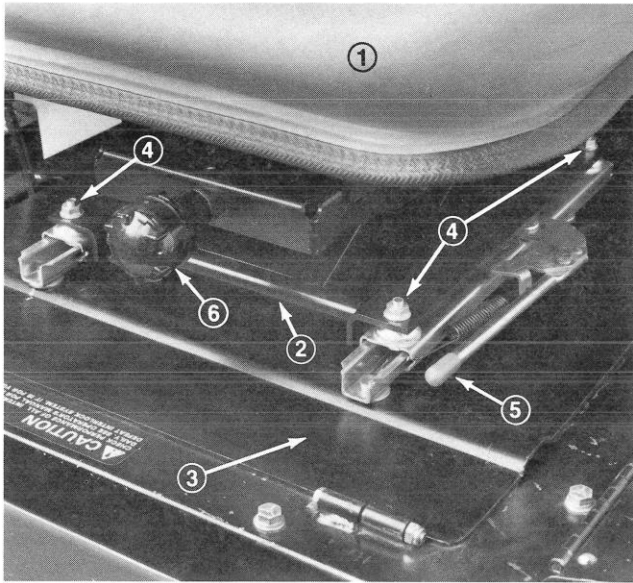

Figure 7
2. Attach seat and suspension assembly to traction unit mounting plate with bolts, flat washers, lockwashers and nuts as shown in (Fig. 7).
Note: Lift handle to move seat forward or backward (Fig. 7).
Note: Rotate spring tension knob clockwise for greater tension to support a heavier operator (Fig. 7).